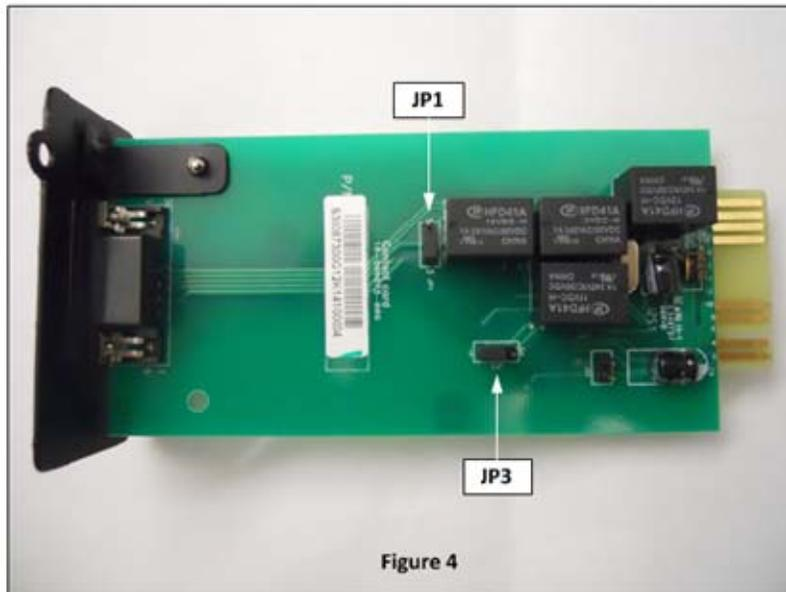

Figure 5
- *N/C Contact* - (factory default), JP3 jumpered 1 to 2. See Figure 5.